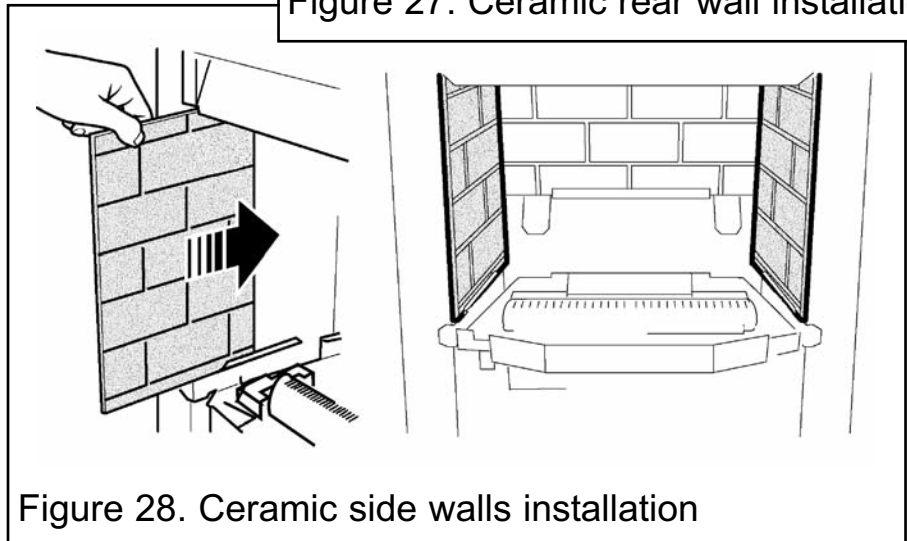

Figure 28. Ceramic side walls installation
2. Fit the ceramic side walls against the side faces of the burner compartment. The bottom edges of the walls should rest in the ledges at the sides of the firebox. Slide them in from the front and ensure that they touch the rear wall. Be careful not to damage the edges of the side walls (See figure 28).